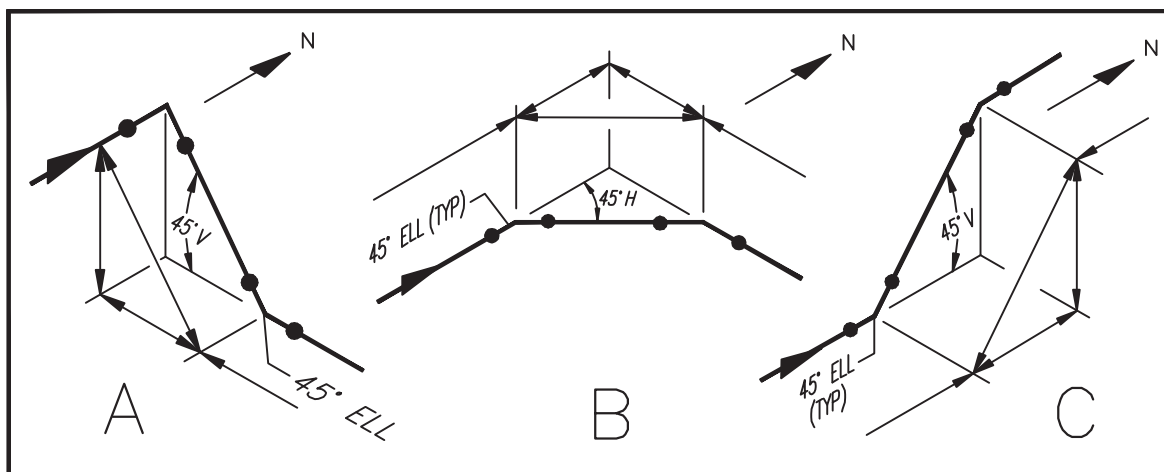

FIGURE 13.17 Isometric offsets.
Isometric offsets are formed when a pipe turns at any angle other than 90°. Angular offsets can be created by rolling a 90° elbow at any angle or replacing 90° elbows with 45° elbows. The result would be pipes that no longer travel north, south, east, west, up, or down. Instead lines would run northwest, northeast, southeast, or southwest. They could also slant upward or downward. Three examples of isometric offsets are shown in Figure 13.17. Dimension lines and callouts are included as a reference. To establish proper visual orientation, the indication of horizontal (H) or vertical (V) angles are included on all isometric offsets. Forty-five degree
Figure 13.17 represents only three of the many offsets that can be created using 90° and 45° elbows. Example A of Figure 13.17 begins with a line traveling north. A 90° elbow is rolled downward and toward the east at a 45° angle, then another 45° elbow is required to return the angular offset back into a due easterly direction. This example is labeled as a vertical offset because a change in elevation occurs when the 90° elbow is turned downward. Example C is also a vertical offset, but note there is no change in the geographic direction the pipe travels. Here, two 45° elbows are used to angle the pipe upward while continuing in a northerly direction. Both elbows are 45°, thus the inclusion of the abbreviation **TYP**, meaning "typical" is added to the "45° ELL" callout. Example B demonstrates how